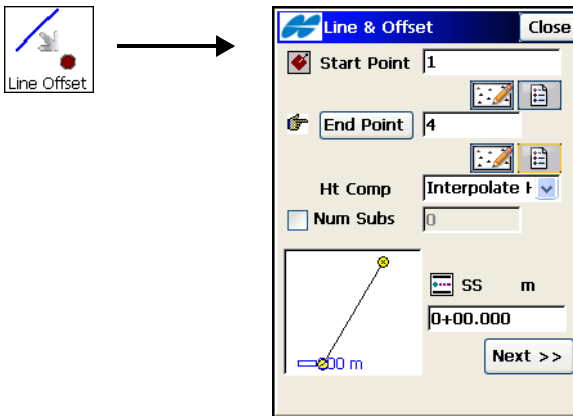

Figure 10-17. Line & Offset
2. Tap **Next** (Figure 10-17 on page 10-16).